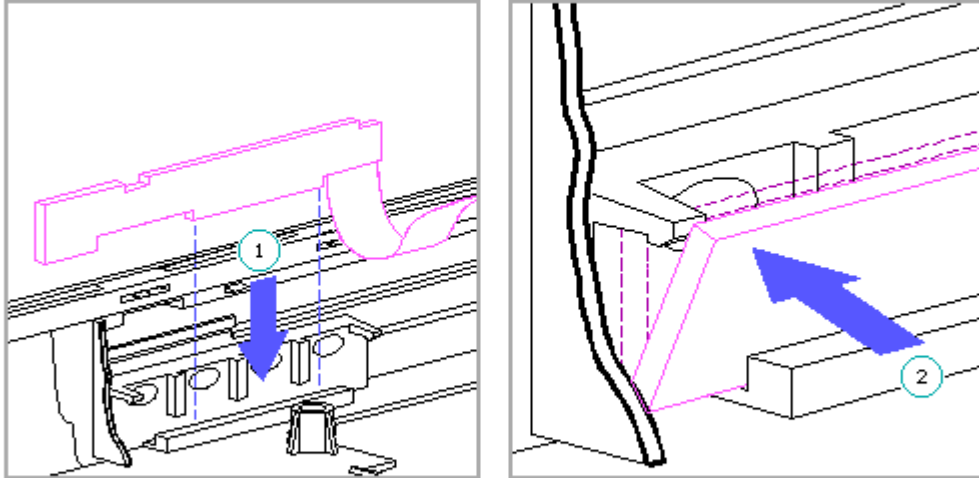

Figure 4-53. Replacing the LED Cable Assembly into the Bracket
3. Insert the lower edge of the LED cable assembly [1] into the lower slot of the LED cable assembly bracket (Figure 4-53).
4. Rotate the top edge of the LED cable assembly up and press gently at the top corners [2] (Figure 4-53) to snap it into the bracket.